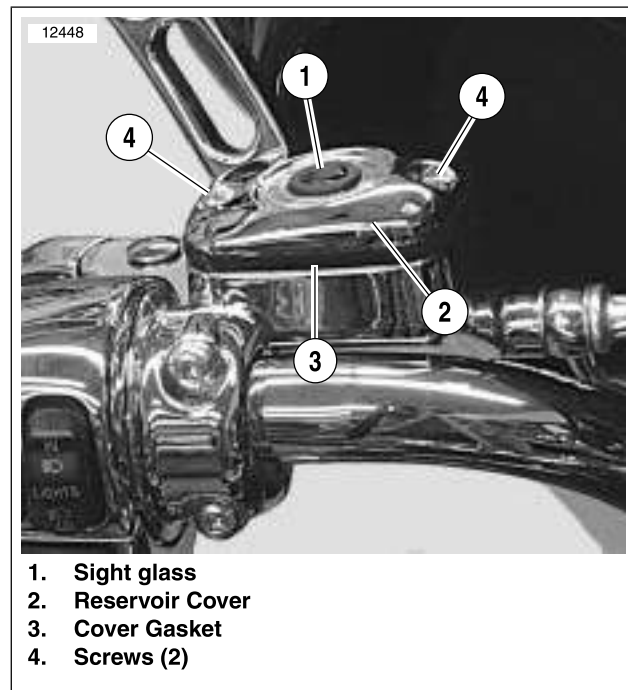

Figure 1-1. Clutch Master Cylinder/Reservoir
See Figure 1-1. Even though a clear sight glass (1) in the reservoir cover indicates low clutch fluid, remove the reservoir cover to check fluid level.
- See Figure 1-1. Remove two screws (4), clutch master cylinder/reservoir cover (2) and cover gasket (3).